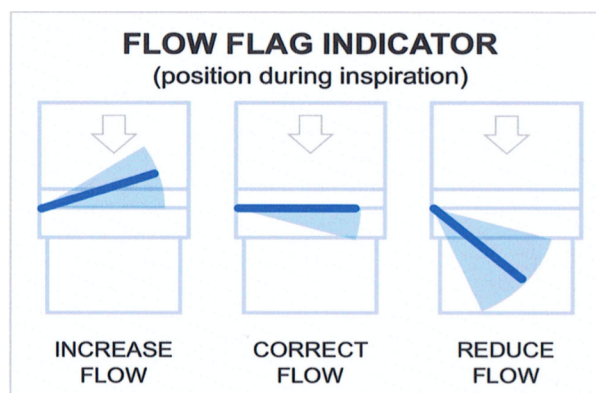

Fig. 19. Flow Flag Appearance and Recommended Action
- The blue flow flag indicator must remain horizontal or just below horizontal on inspiration and below horizontal on expiration, as shown in Fig. 19